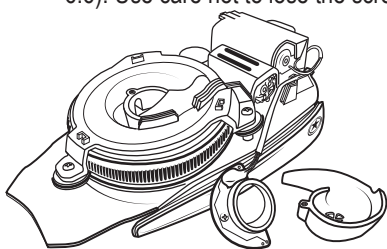

Fig 6.5
1. Using a small Phillips-head screwdriver, loosen the screw that holds the Eye Board and Eye Feedneck in place (Fig 6.5).